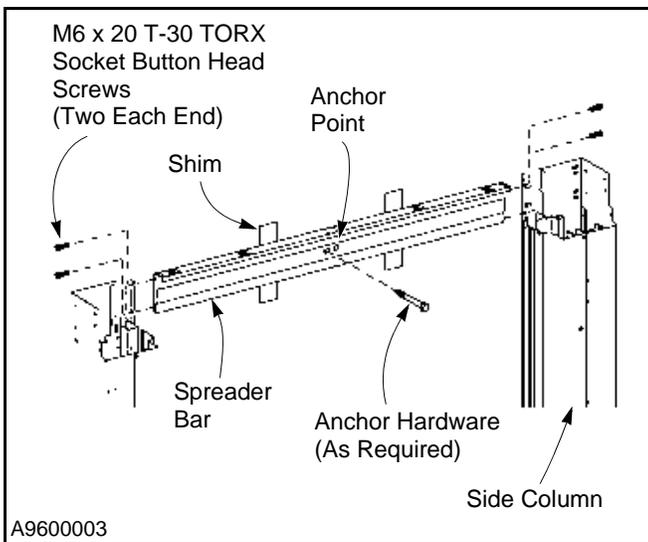

Figure 24
3. Inspect the hardware used to attach the spreader bar to the side columns. Tighten the hardware as required. Replace any missing or damaged hardware. (See Figure 24.)